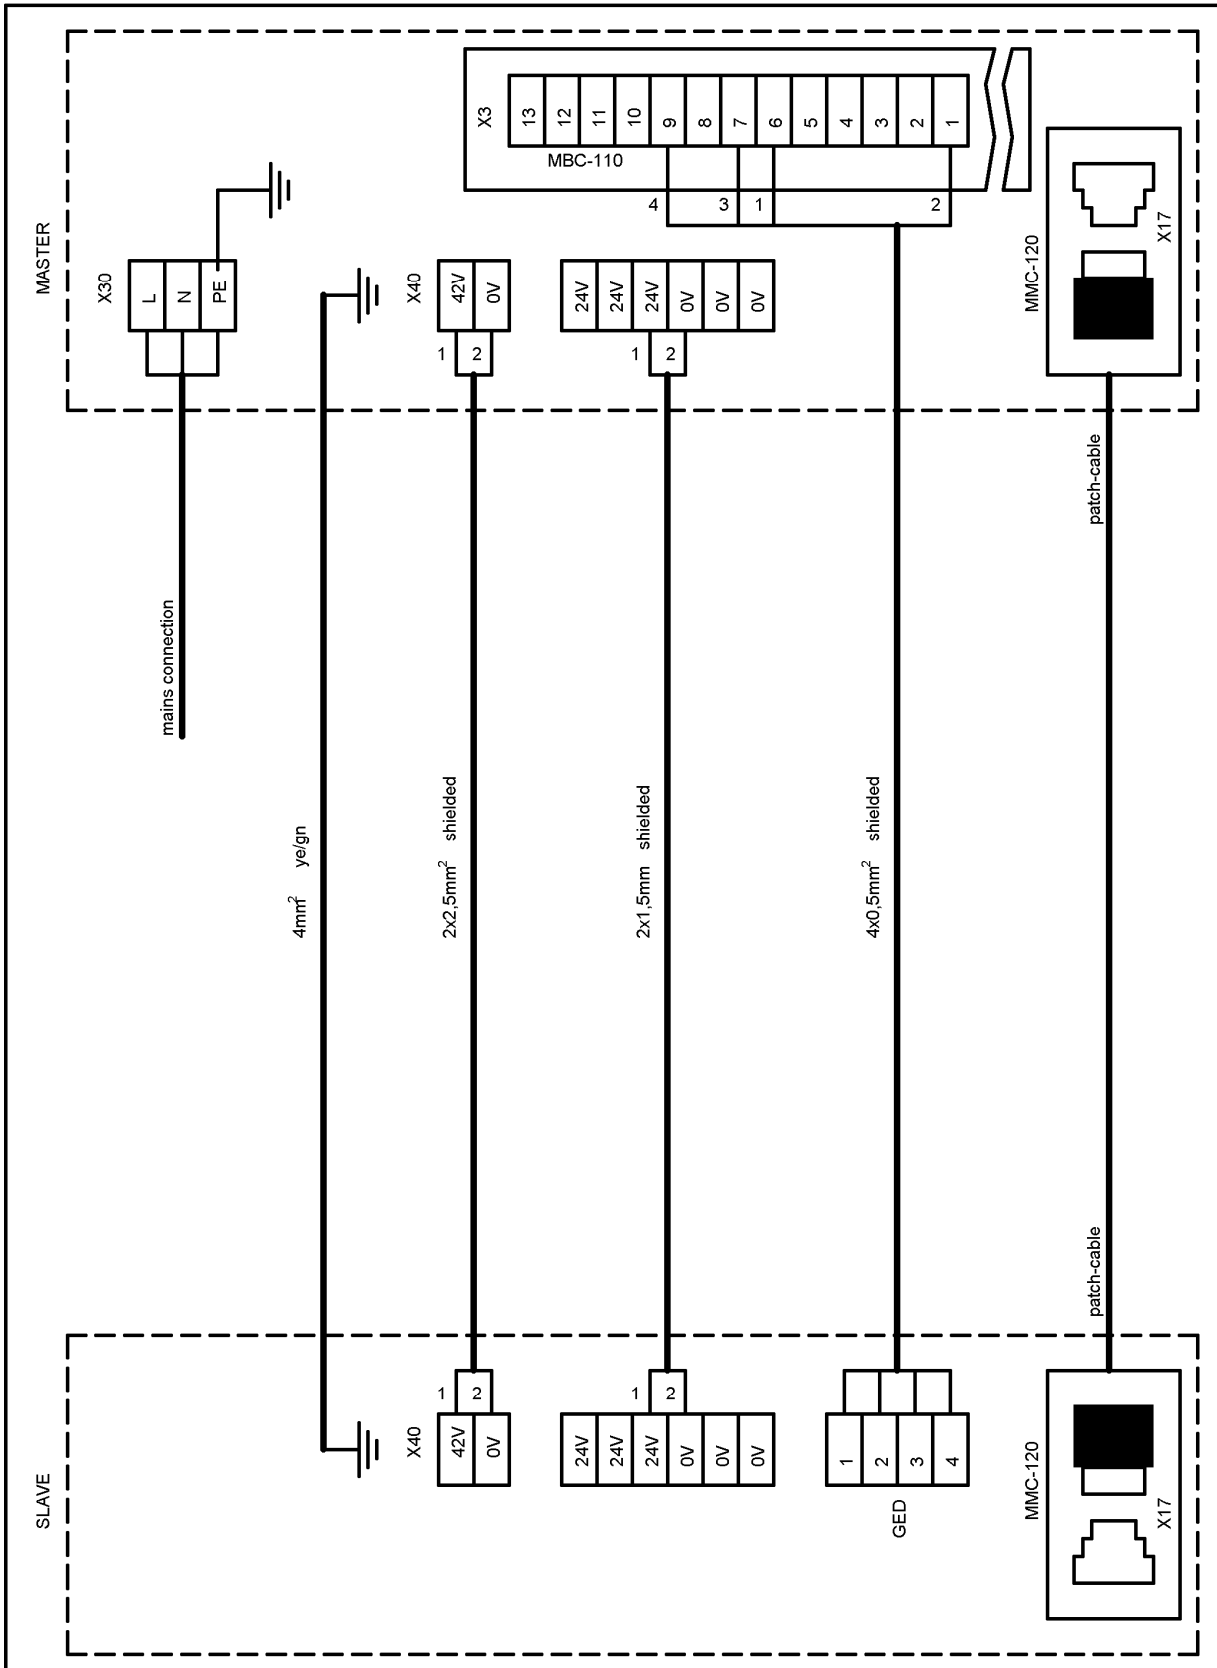

Fig. 19: Connections for mains supply and connecting lines
2. Connect the mains cable to every centre and end module according to wiring diagram. Refer to Page 20, Fig. 19 and to Page 106.
3. Connect low-voltage cables and data cable (CAN bus) according to wiring diagram. Use shielded cables. Refer also to Page 50, Fig. 19.